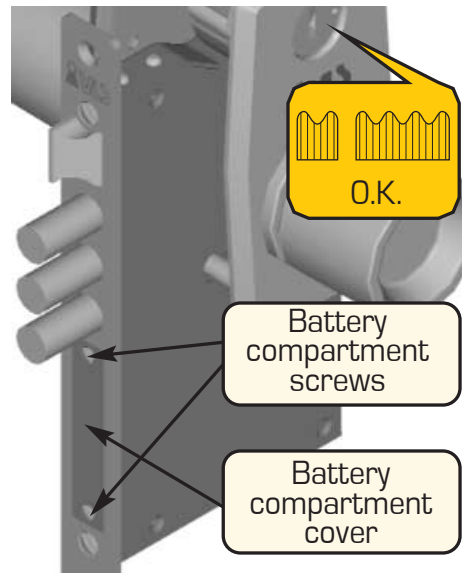

Figure 34 – Replacing Batteries
1. Using a screwdriver, unscrew the two fixing screws from the battery compartment cover on the lock end surface (fig. 34).
2. Holding those crews, remove the cover and take out the battery compartment from the lock body (fig. 34).